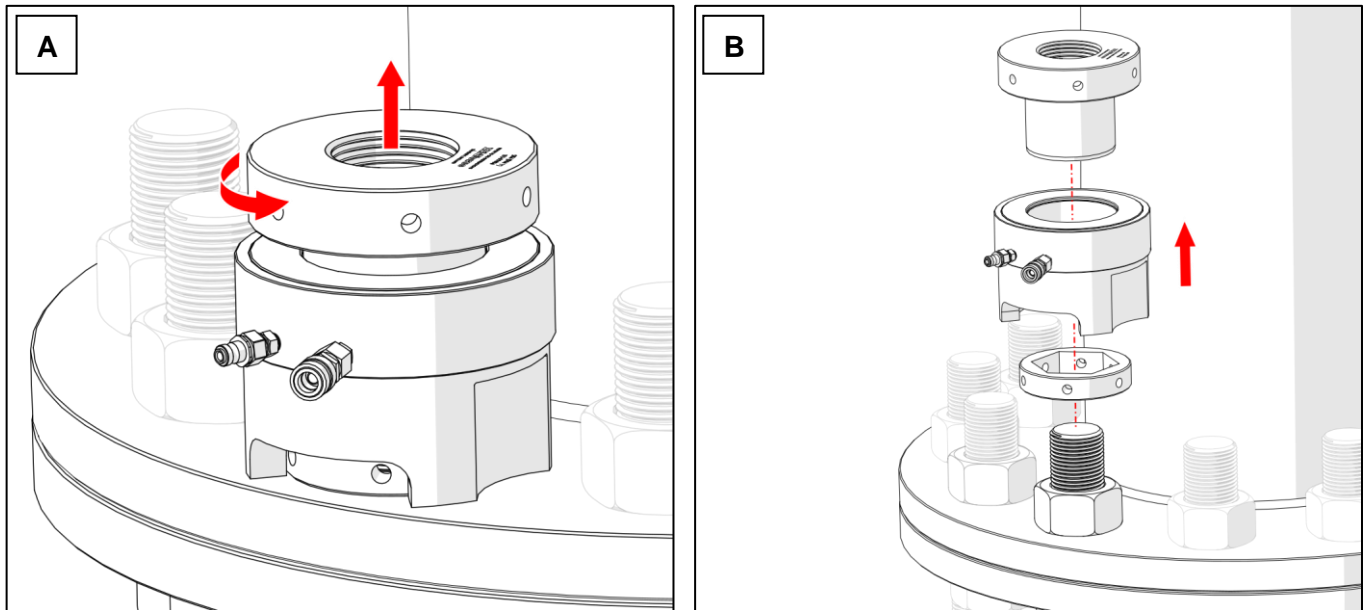

Figure 6.4 - Removing the Tensioner
6.6 Removing the tensioner/s. (Figure 6.4)